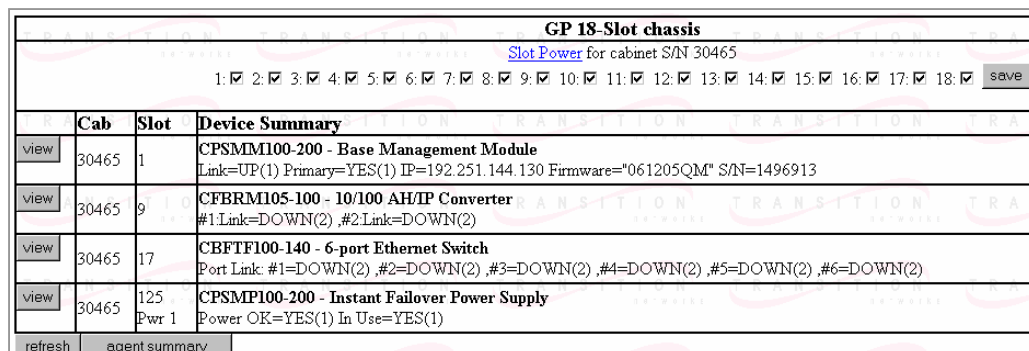

Figure 39: Point System Chassis Main Menu
6.	Click the VIEW button to show the Devices in the chassis and the screen will appear, as shown in Figure 39.